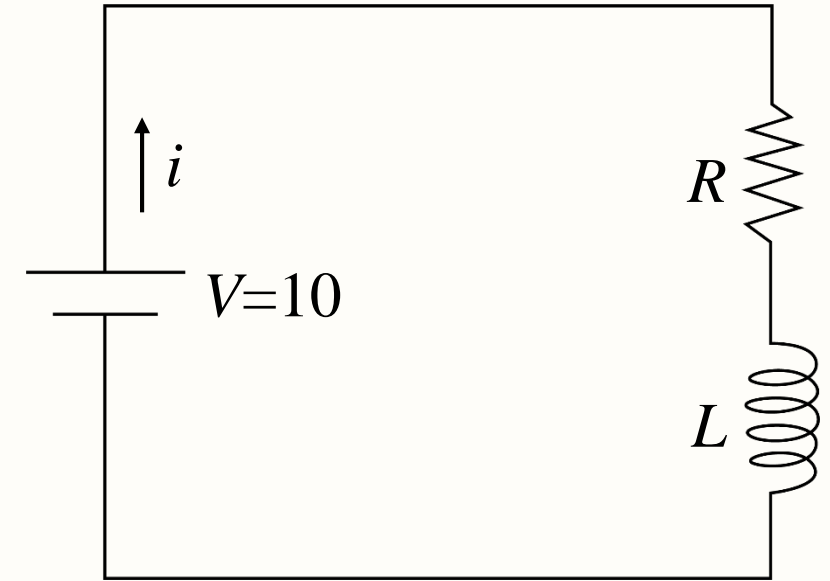

Fig. 38. Electric equivalent circuit.
- a) When connected to 10 V dc, the electric circuit is shown in Fig. 38, where